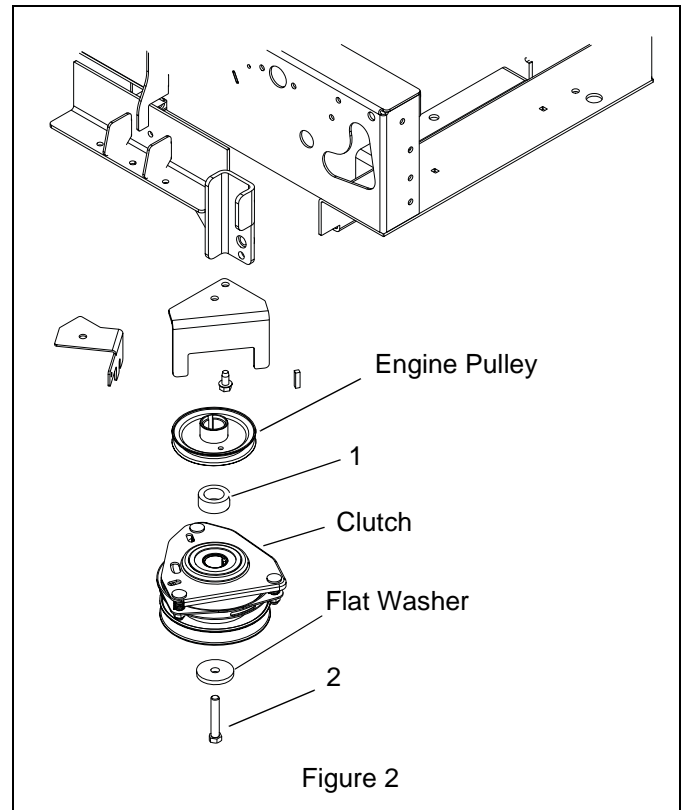

Figure 2
5. Remove spacer below engine pulley and discard. See Figure 2.
8. Install new spacer (item 1) below engine pulley. See Figure 2.
9. Install clutch and flat washer and secure with replacement hex bolt (item 2).